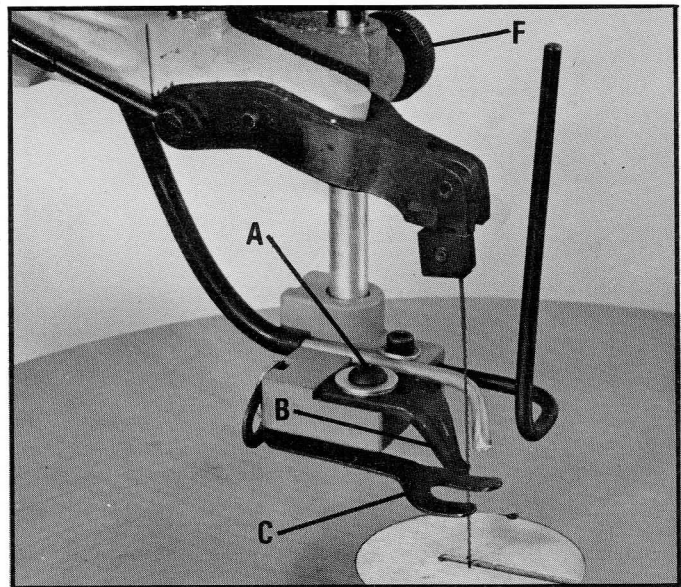

Fig. 21
The button head screw (A) Fig. 21, holds the blade guide to the blade guide bracket. The guide (B) should be adjusted forward until the V-slot barely touches the rear edge of the blade. Then tighten screw (A) Fig. 21. The blade should not rub in the slot while running free. Excessive friction work-hardens the back edge of the blade and reduces blade life. Pressure on the work will push the blade back against the guide while cutting.
The purpose of the holddown spring (C) Fig. 21, is to hold the work against the table so that it cannot lift with the up stroke of the blade. It should lie flat on the work with the front prongs straddling the blade.
The holddown spring (C) Fig. 21, is attached to the blade guide bracket and the height of the holddown spring is adjusted by loosening knob (F) and moving the guide post up or down.